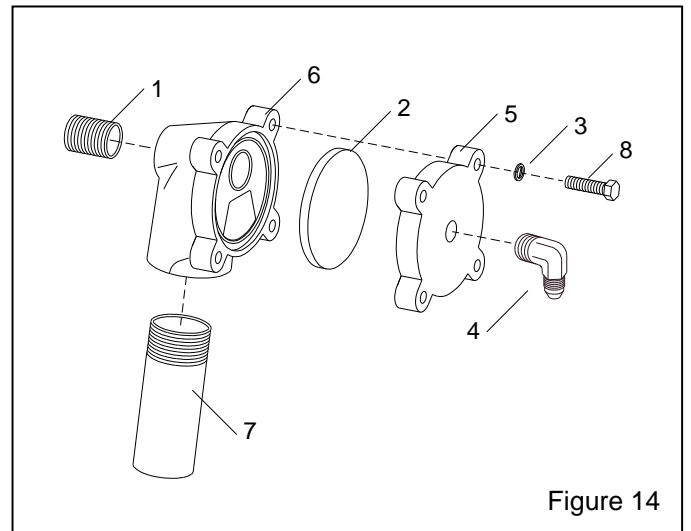

Figure 14
7.6 1/2" Diaphragm Outlet Valve, Figure 14